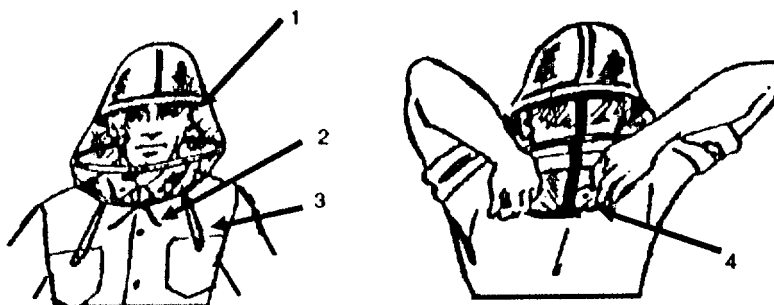

Figure 2-32. Insect Headnet
- (1) Place the headnet on your bare head so that the elastic head band (1, Figure 2-32) rests comfortably on the upper part of your head. Then put your hat or helmet over the head net. This is the preferred method of wearing the insect headnet. Using this method allows you to take the hat or helmet off while the
- (2) Pull your collar underneath the headnet and tie the draw string (2, Figure 2-32) into a knot so that it is about 8 inches (20 cm) below your chin, placing the headnet slightly below the collar.
- (3) Check that the back of the headnet is well below the collar. Hook the elastic loops (3) tightly over the breast pocket buttons.
- (4) To remove the headnet quickly, grasp the back of it where it rests over the collar (4) and pull forward.
- (5) To avoid being bitten by dangerous insects, rub insect repellent in the headnet.